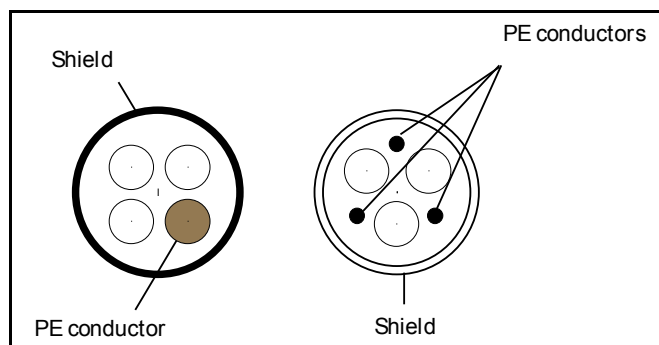

Figure 13.
- 2 = Symmetrical power cable equipped with concentric protection wire and intended for the specific mains voltage. (MCMK or similar recommended). See Figure 13.
- 3 = Symmetrical power cable equipped with compact low-impedance shield and intended for the specific mains voltage. [MCCMK, EMCCK or similar recommended; Recommended cable transfer impedance (1...30MHz) max. 100mohm/m]. See Figure 13.